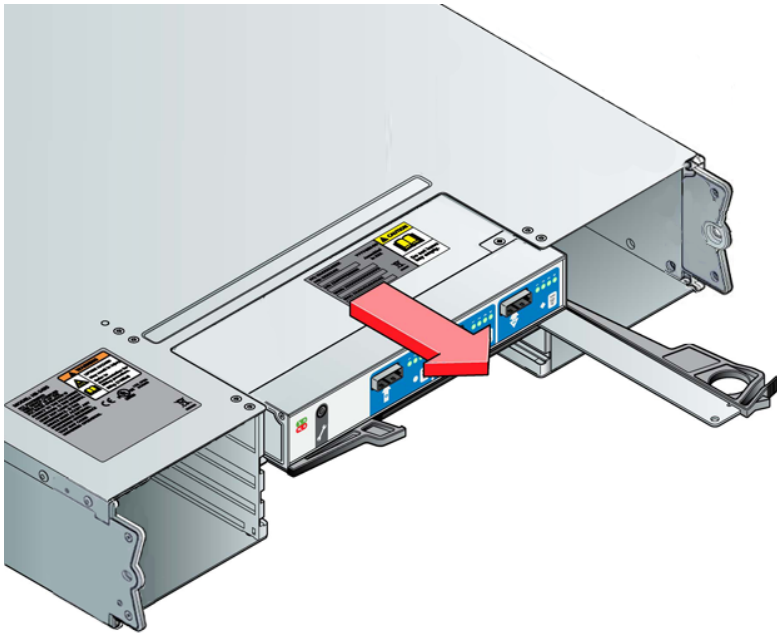

Figure 6-12: Removing an I/O Module
3. Grip the latch handles and withdraw the module (Figure 6-12).